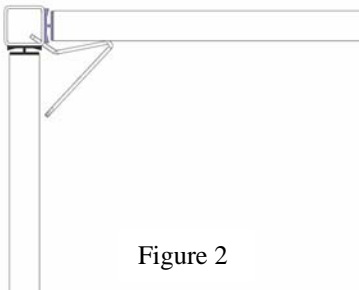

Figure 2
1. Insert the right adapter bracket with tapped holes, tabs facing down, into corner of office furniture equipment mounting slots at desired height (see Figure 2).